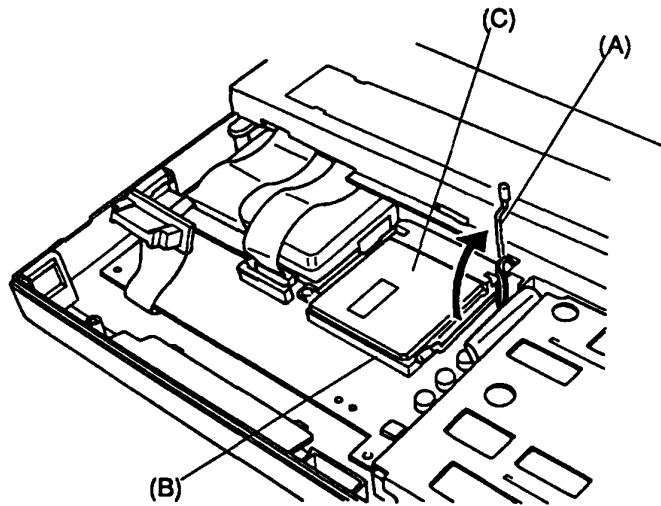

Figure 4-10 Releasing the CPU lever
3. Lift the lever (A) on the left side of the CPU socket (B) to release the CPU (C) from its socket. Lift the lever up until you hear a click indicating the lever is fully extended (Figure 4-10).
1. Make sure the lever on the CPU socket is fully extended (Figure 4-10).